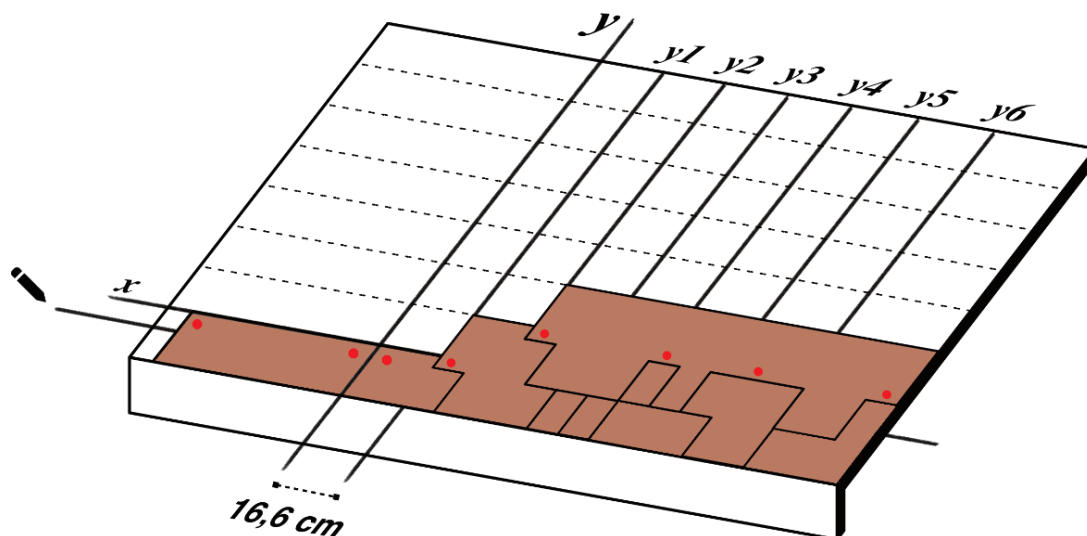
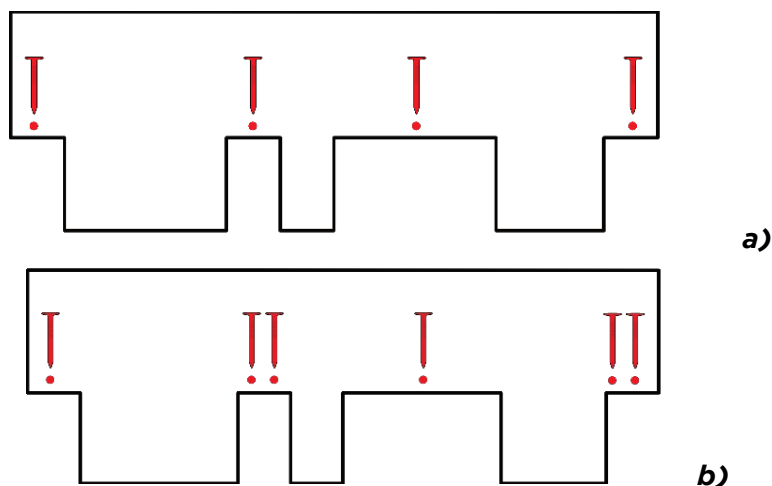

Fig. 7 - Shingles installation
Fig. 8 - Shingle nailing a) slopes <60°; b) slopes >60°
- Apply over the membrane/underlayer a bead of bituminous adhesive Bitustick close to the gutter line - Fig. 7;
- Proceed with the installation of the first row of shingles: align the lateral edge of the first shingle on the vertical **y**, and the upper edge on the horizontal 14,3 cm from **x** - Fig. 7. Nail the shingle to the substrate by placing 4 nails per shingle, as per Fig. 8 a). In the event of pitched slopes between 60° and 85°, place 2 additional nails close to the second and fourth nail, for a total of 6 nails per shingle, as per Fig. 8 b). Proceed by placing all the shingles in the first row.
- Move forward with the installation of the second row of shingles starting from the vertical line y_2 and aligning the upper edge of the shingle to the horizontal line 28,6 cm from x . - Fig. 7.